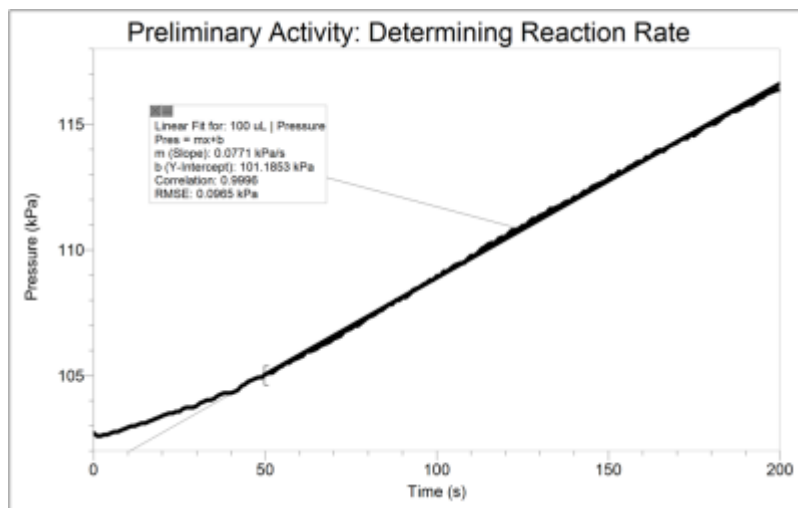

Figure 1 Preliminary Activity Sample Results
1. Answers will vary. The value shown in Figure 1 is 0.0771 kPa/s.